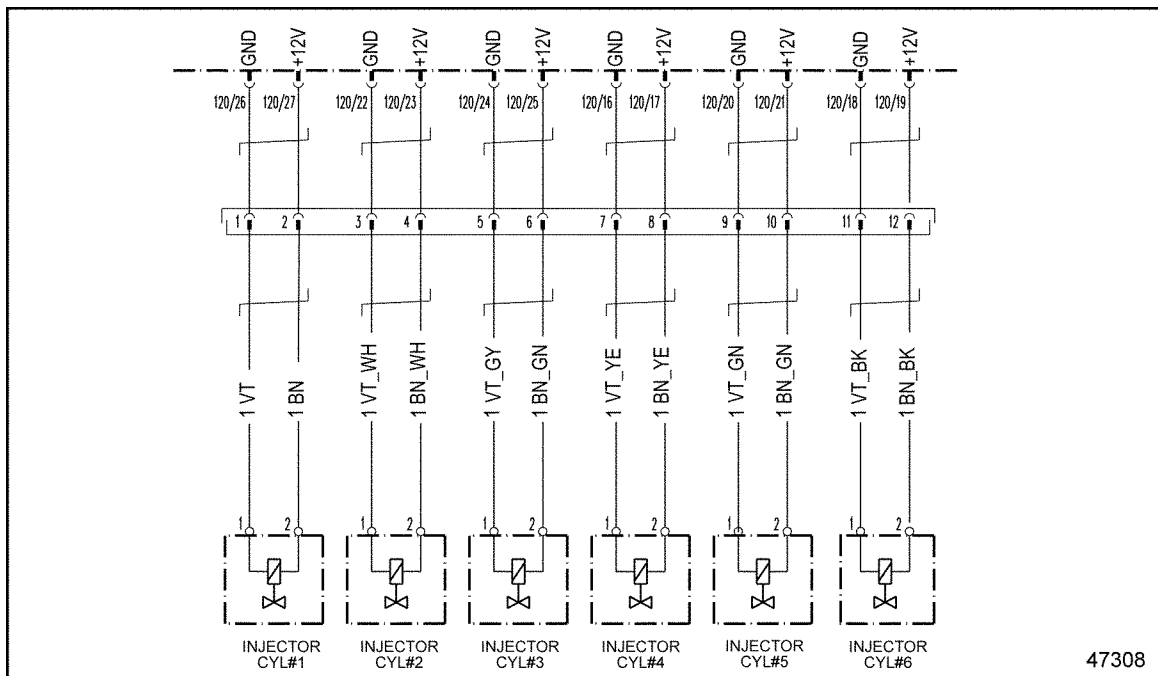

Figure 24-2 MBE 900 Injectors
3. Measure the resistance between pin 1 of injector #1 and ground on the valve cover side of the Injector Harness 12-pin connector. See Figure 24-2.